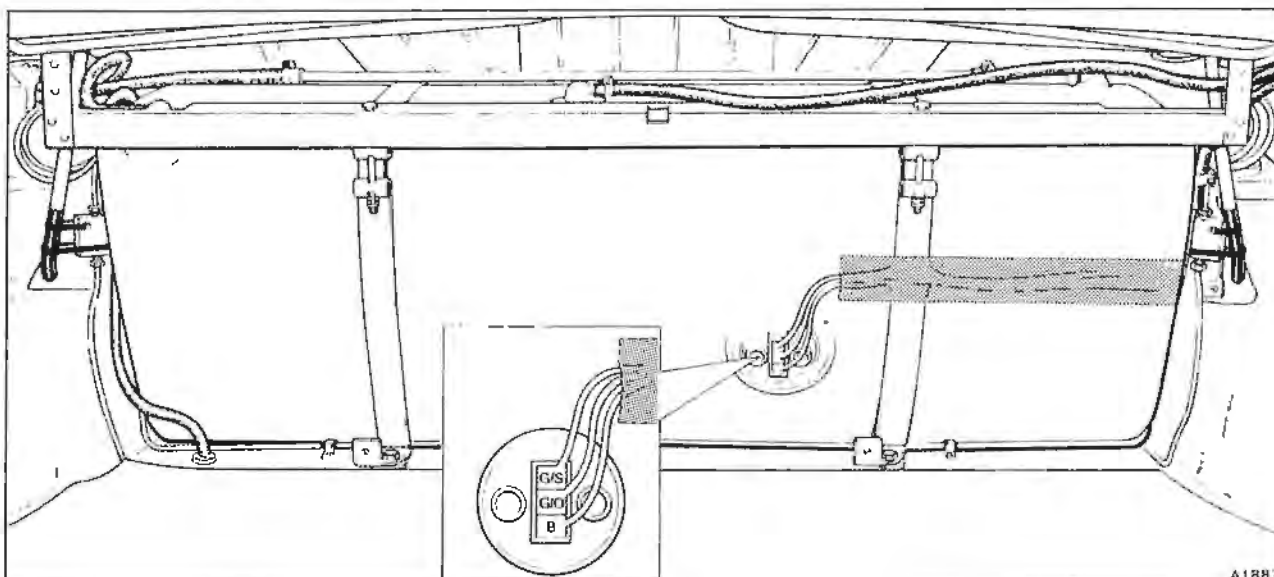

Fig. C2-4 Fuel tank in position (4 door cars)
25. Locate the fuel gauge sender unit electrical loom (see figs. C2-4 and C2-5). There are three cables in the loom and these are coloured black, green/orange, and green/slate.